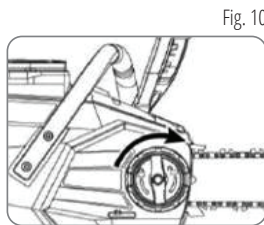

Fig. 10
8. Tighten the side cover lock knob (see fig.10).